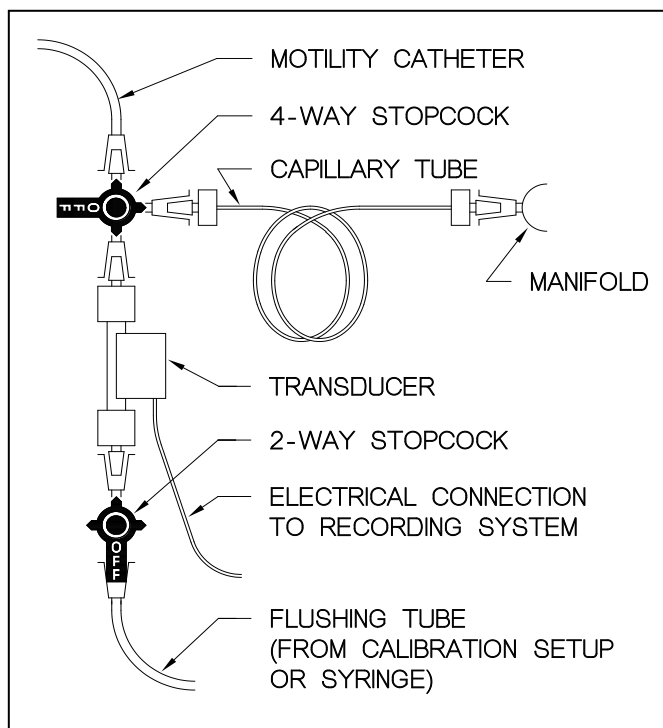

Figure 9: Installation of Stopcocks on Transducer
Install plastic stopcocks (not supplied) to the input and output ports of the transducers and attach capillary tubes as shown in Figure 9, to aid in the purging of air bubbles.
The most common cause of loss of recording accuracy in a motility system is air bubbles trapped in the transducer or in the manometric catheter. Figure 9 shows the way to connect the transducers to the Manometric Pump and the catheter when using a large syringe. This setup requires additional 2-way and 4-way stopcocks for each transducer. Ample water under pressure can be flushed from the bottom to the transducer in order to push any air bubbles up and out the top of the transducer. This method ensures that the transducer and catheter are free of air bubbles in the shortest time possible.
- After the water chamber pressure has been adjusted to the desired level (usually 15 psi), open all 4-way stopcocks on top of the transducers as shown in Figure 9, Section 3.5.